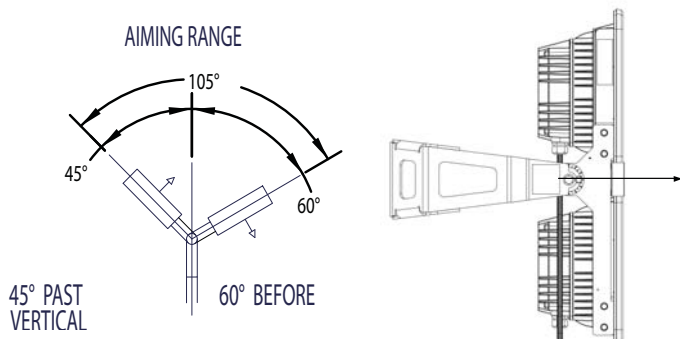

Figure 3 – Aiming Range Adjustment
Do not aim light 90° past or before vertical (see Figure 3).
3. To make final vertical adjustment, loosen the pivot bolts on the floodlight yoke to position floodlight at the desired angle (limited to 60 degrees forward and 45 degrees back, as shown in Figure 3).
5. Tighten the two (2) 1/2"-13 bolts to 45 ft.-lbs. (61.0 N-m). Tighten the 5/16"-18 bolts in the adjustment slots to 12 ft.-lbs. (16.3 N-m).